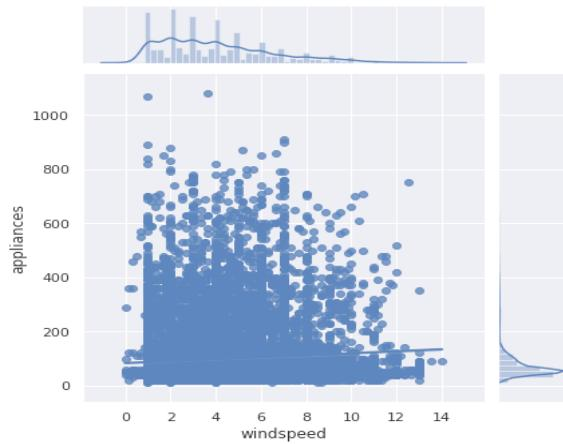

Fig 26
- Between Appliance and Windspeed, as shown in fig 26